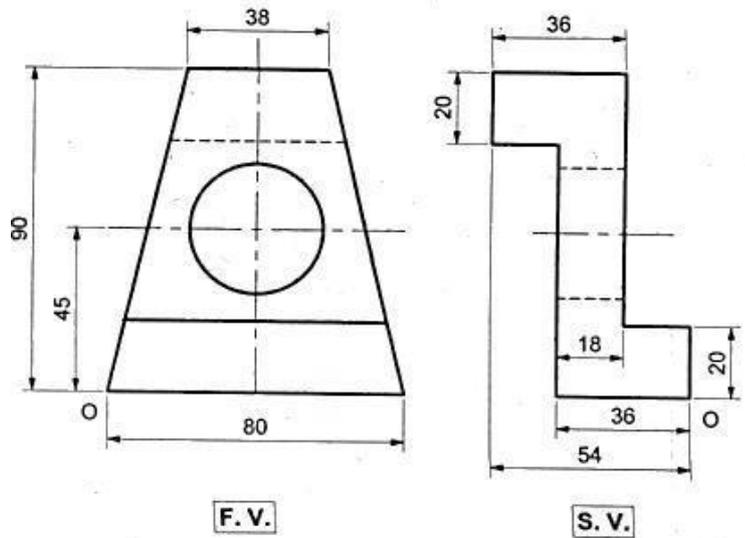

Fig.2
3. Fig.2 shows Front View and Side View of an object. Draw Isometric View.